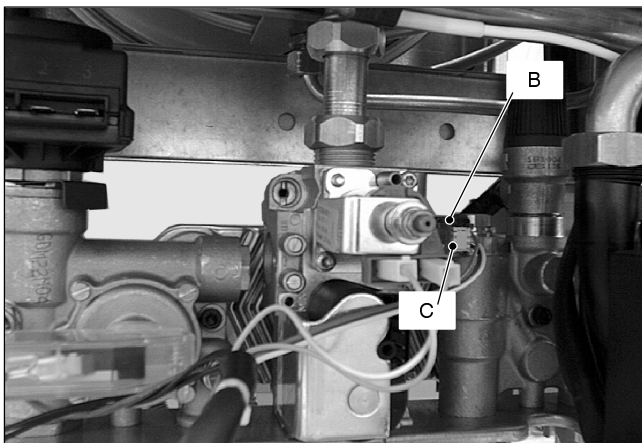

Fig. 66
- 2 Switch on the boiler and open a d.h.w. tap. The lamp **B** (Fig. 66) placed on the sensor body is switched on when the flow rate reaches about 2,5 litres/min'.
- 2 Disconnect the connector **C** (Fig. 66) and remove the sensor by delicately levering downwards with a screwdriver.